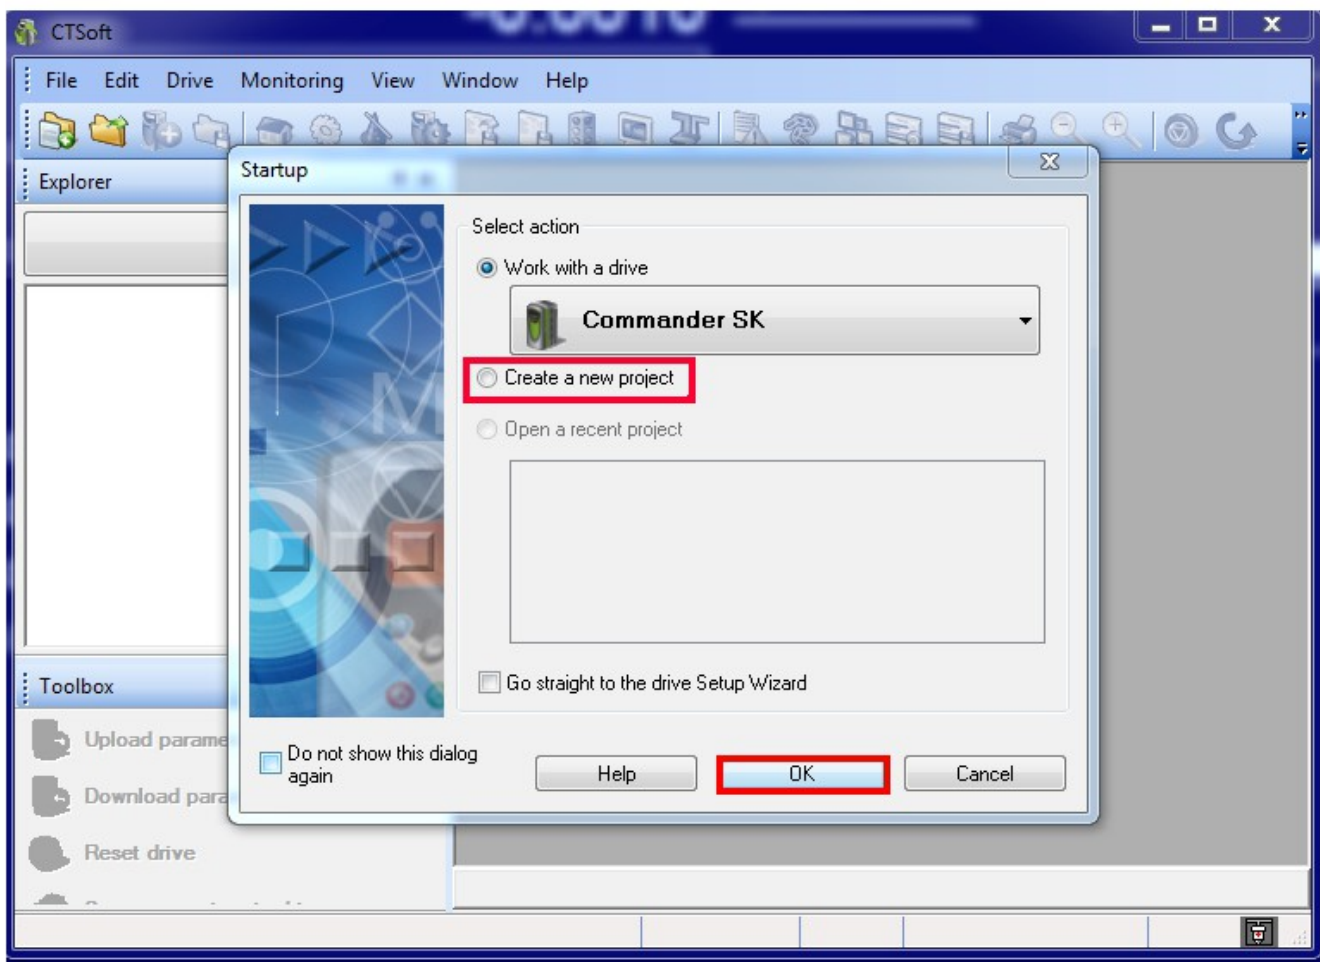

Figure 4
2. Select **Create a new project** and click **OK** as shown in Figure 4.